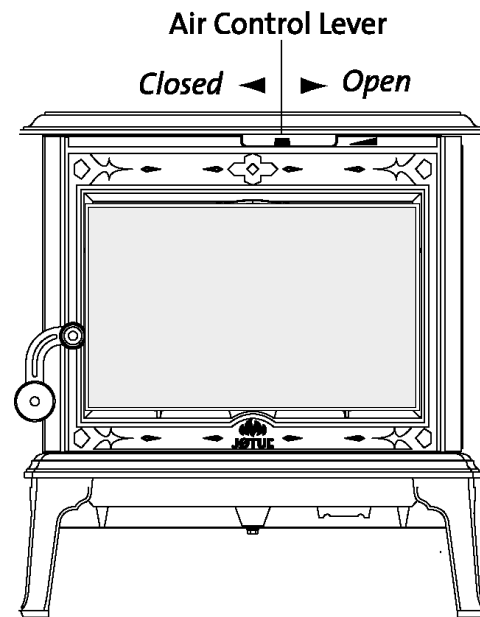

Figure 14. Slide the Air Control Lever to the right to increase combustion air and to the left to decrease combustion air.
**Primary air** is manually regulated by the Primary Air Control lever located at the under the top plate on the front of the stove. See Fig. 14. The valve position controls the volume of primary air entering the firebox and thereby affects fire intensity, heat output and burn time. Primary air is directed to the main body of the fire through a large manifold over the door opening at the front of the stove. The manifold also creates an 'air-wash' to help keep the viewing glass clean.